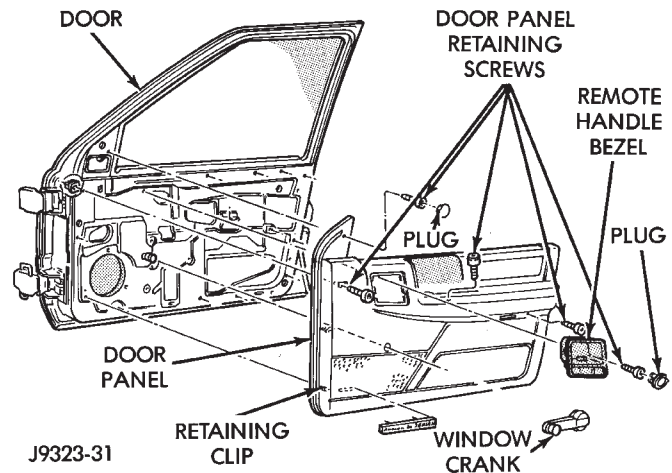
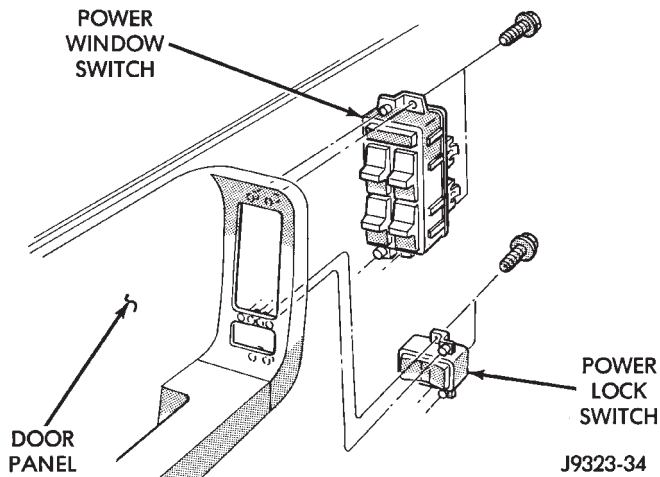

Fig. 2 Door Panel
Fig. 3 Left Power Door Switches
- (2) Disconnect handle latch and lock rods.
- (3) Remove window crank handle (Fig. 2).
- (4) Remove screw at armrest (Fig. 2).
- (5) Remove screw at window demister slot (Fig. 2).
- (6) Remove screw at the upper mirror bezel (Fig. 2).
- (7) Detach trim panel perimeter retainers from door inner panel with an appropriate pry tool (Fig. 2).
- (8) If equipped, disconnect the wiring connectors from power switch panel.
- (9) Remove trim panel from door (Fig. 2).
- (10) If necessary, remove waterdams from door.
- (11) If necessary, remove power switches from door panel (Figs. 3 and 4).
- (1) Apply adhesive/sealant to edges of door waterdam.
- (2) Position waterdam on door inner panel. Press it inward to attach it to inner panel.
- (3) If removed, install power door switches (Figs. 3 and 4).
- (4) Position trim panel on door inner panel. For vehicles equipped with power door locks/windows, connect wire harness connectors. Press nylon retainers inward to attach it to inner panel (Fig. 2).
- (5) Install armrest screw. Install demister slot screw. Install mirror bezel screw (Fig. 2). Tighten screws to 4 N•m (34 in-lbs) torque.
- (6) Install window crank handle (Fig. 2).
- (7) Connect rods to inside handle assembly. Install handle assembly (Fig. 2). Tighten screws to 2 N•m (16 in-lbs) torque.